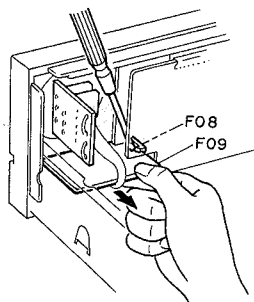

Fig. 2.4.2
- (1) Remove the Top Cover Ass'y and Bottom Cover Ass'y referring to item 2.1.
- (2) Pull out a knob F01, loosen a nut F02, remove a washer F03, and disassemble F04 (Volume P.C.B. Ass'y).
- (3) Pull out a knob F05, loosen a nut F06, and remove a washer F07.
- (4) Unhook a claw F08 and remove F09 (Balance & Loudness P.C.B. Ass'y). Refer to Fig. 2.4.2.